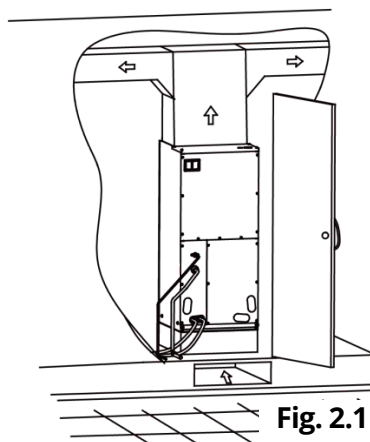

Fig. 2.1
- ⊗ ***DO NOT*** install the air handler in enclosed areas, such as garages, utility rooms or parking areas. Carbon monoxide producing devices (such as an automobile, space heater, gas water heater, etc.) should not be operated in enclosed areas such as unventilated garages, utility rooms, or parking areas because of the danger of carbon monoxide (CO) poisoning resulting from exhaust emissions. If a furnace or air handler is installed in an enclosed area such as a garage, utility room, or parking area, and a carbon monoxide producing device is operated therein, there must be direct ventilation to the outside. Adequate ventilation is necessary to avoid the danger of CO poisoning which can occur if a carbon monoxide producing device continues to operate in an enclosed area. If these warnings are not followed, carbon monoxide emission can be (re)circulated throughout the building from the air handler causing serious illness including permanent brain damage or death.
- If air handler is installed as shown in Fig. 2.1, the air handler should be concealed in a specific room or space and make sure the air handler is not accessible to the general public.